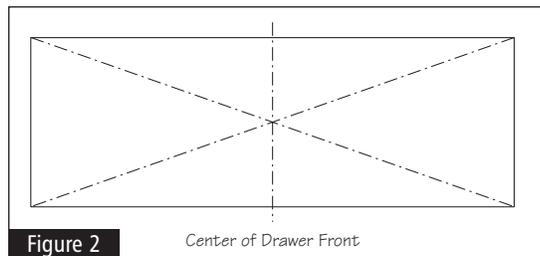

Figure 2
- 2** On the back side of the drawer front draw a line diagonally from corner to corner, 2 places. Draw a line at the intersection to locate the center of the drawer front, as shown. See Figure 2